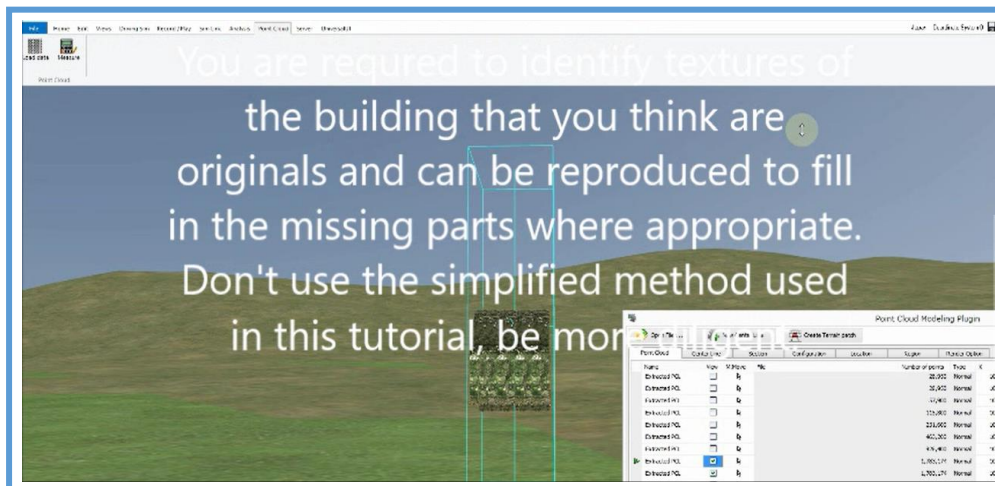

Fig 9: coping process of building's portion
Step 4: once you created part of the building to be replicated, you can start proceeding like a copy past in Microsoft Office software and copy the polygon where needed. In the case below (see figure 9), the roof and walls are being created using the piece of building you copied.